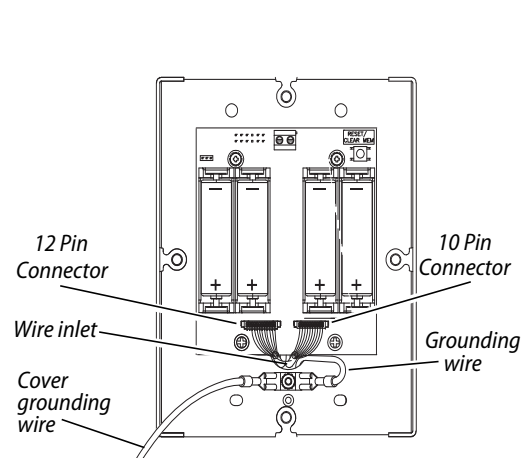

Figure 2 Wire connections to circuit module
- 5 Connect the wires and batteries as shown in Figure 2.